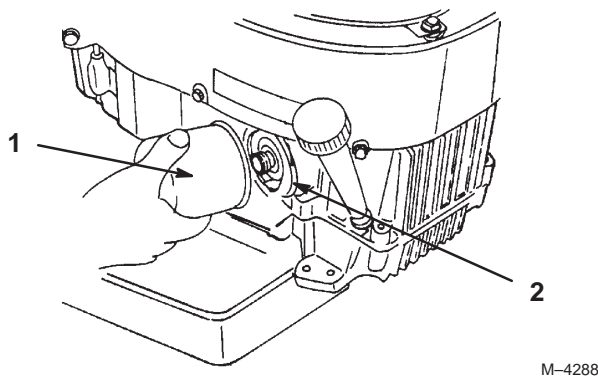

Figure 38
2. Remove the old filter (Fig. 38).
3. Apply a thin coat of new oil to the rubber gasket on the replacement filter (Fig. 38).
4. Install the replacement oil filter to the adapter. Turn the oil filter clockwise until the rubber gasket contacts the filter adapter, then tighten the filter an additional 3/4 turn (Fig. 38).